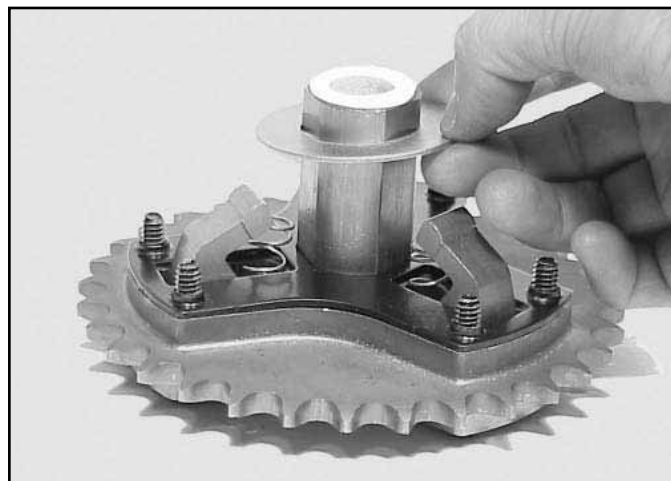

Fig 199
10. Slide thrust washer onto the 32-tooth sprocket gear (Fig. 199).